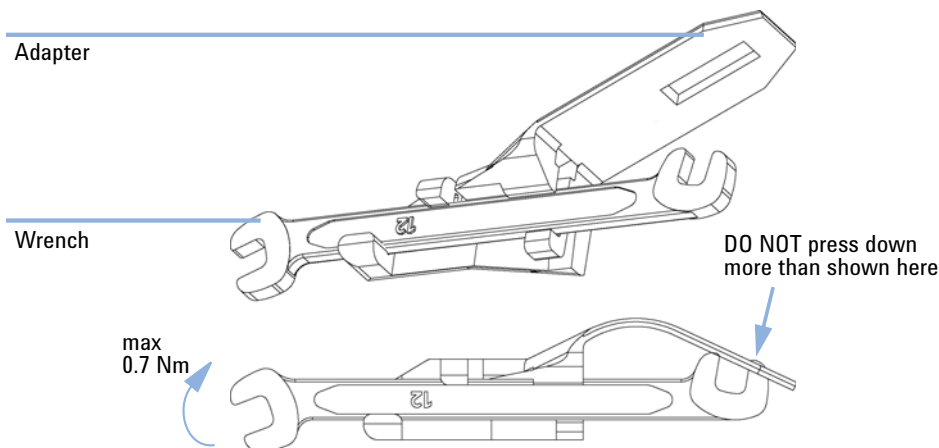

Figure 46 Wrench plus Torque Adapter
- 9** Insert the flow cell capillaries and tighten them fingertight. Use the wrench and torque adapter as described on Figure 46 on page 184 and tighten the fittings alternately.
With the instrument accessory kit comes a 4-mm wrench and with the Sealing Kit a special adapter. Both together work as a torque wrench with pre-defined torque (maximum allowed torque for the cell fittings is 0.7 Nm). It can be used to tight the capillary fittings at the flow cell body. The wrench has to be plugged into the adapter as shown in Figure 46 on page 184.